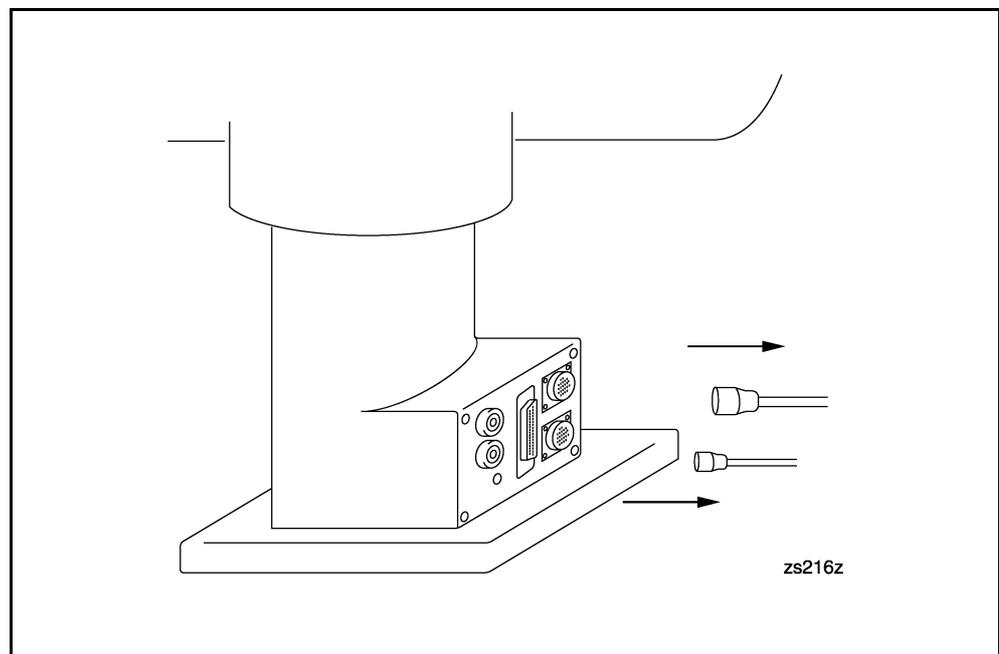

Figure 2-10 Disconnecting the Cables and Air Pipes
- (1) Disconnect the motor cable and encoder cable from the robot unit. (See Figure 2-10.)
- (2) Disconnect the air pipe from the joint. Disconnect the grounding wire from the terminal. (See Figure 2-10.)
- (3) Remove the handle and tools (if installed) from the T axis.